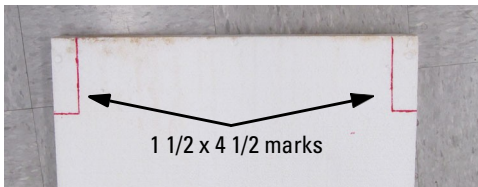

Figure 29: Mark foam insulation
- a. Mark two corners of the foam insulation with 1 1/2" x 4 1/2" lines (Figure 29).